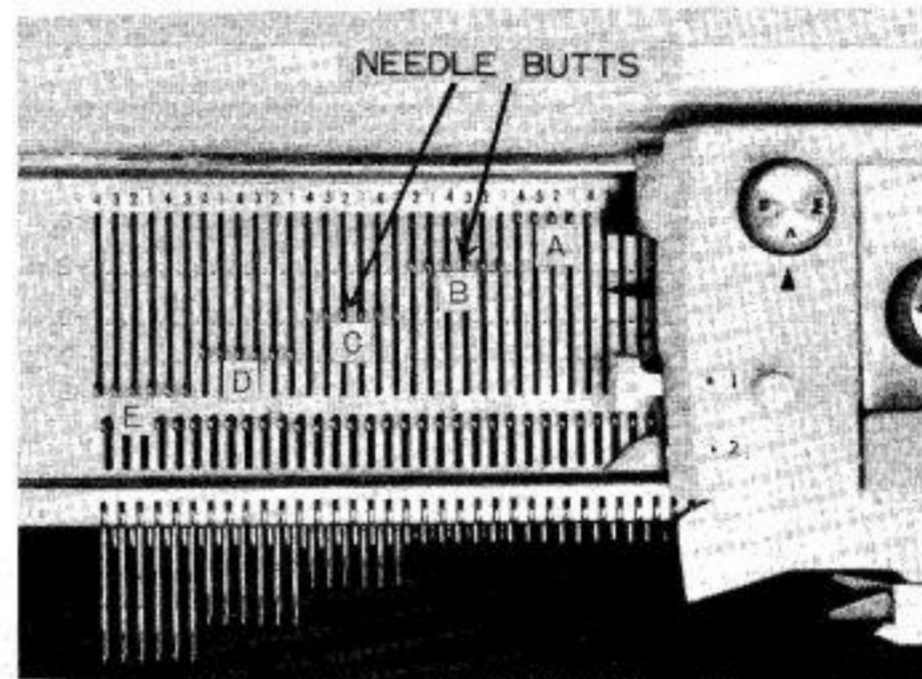

Fig. 3
(Fig. 3)
This means that needles in any of the Positions (B), (C) or (D) — (see Fig. 3) — will knit, and further when setting the Return Cam Lever to No. 2, needles in Position (E) will also knit. (Fig. 9B)